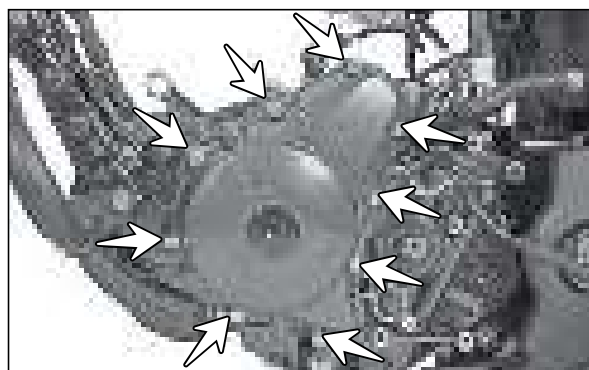

Fig. 3.115
- Remove the hexagonal flange bolts (M6x40 - 9 Nos.) from the cover magneto mounting. (Fig. 3.115)